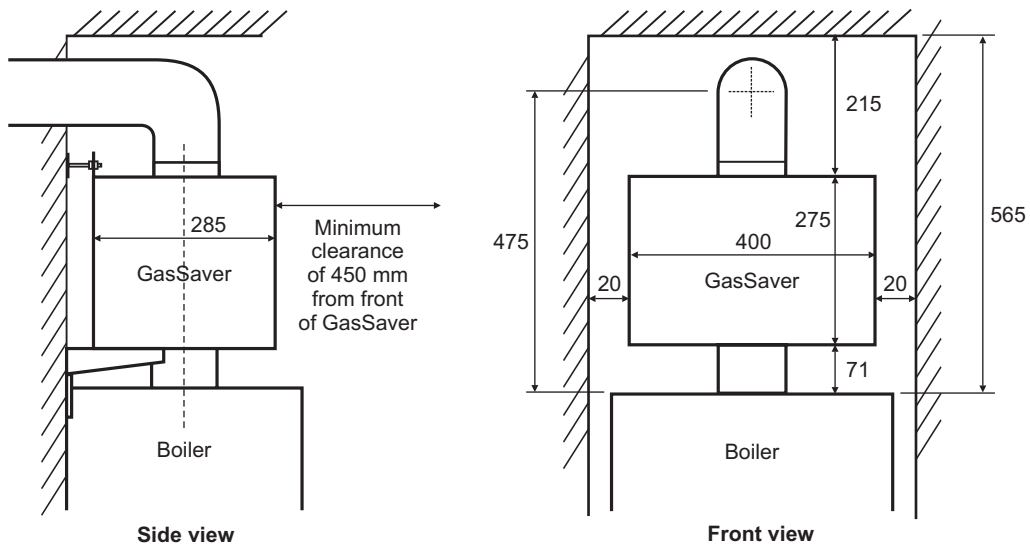

Fig. 5
5.2 MINIMUM CLEARANCES REQUIRED - Fig. 5
2. Before commencing installation, it is important to ensure that there is adequate clearance above the boiler to accommodate both the GasSaver and flue kit. Refer to Fig. 5.